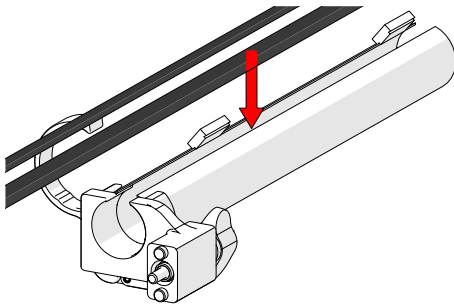

Fig. 182 - Insert cables and hoses
1. Open the cable management. Begin at the clamp end and start placing the cabling in the tube (*Fig. 182*).